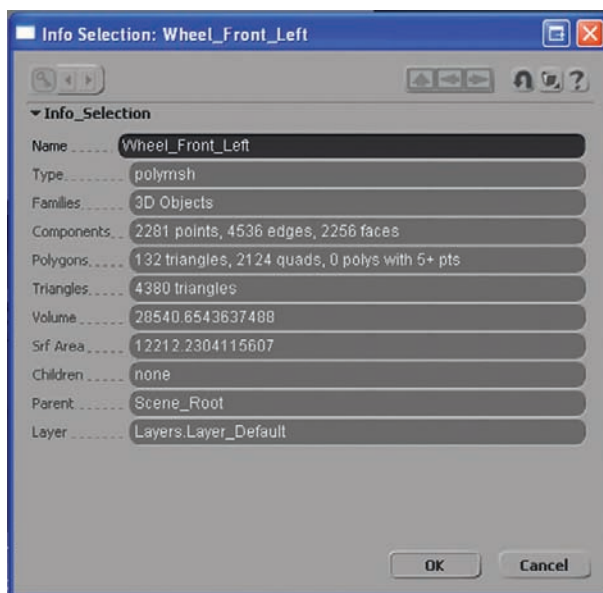

Figure 6.10
1. Press Shift + Enter to open up the Info Selection screen. This will display a dialogue containing all of the information about the selected mesh (Figure 6.10).